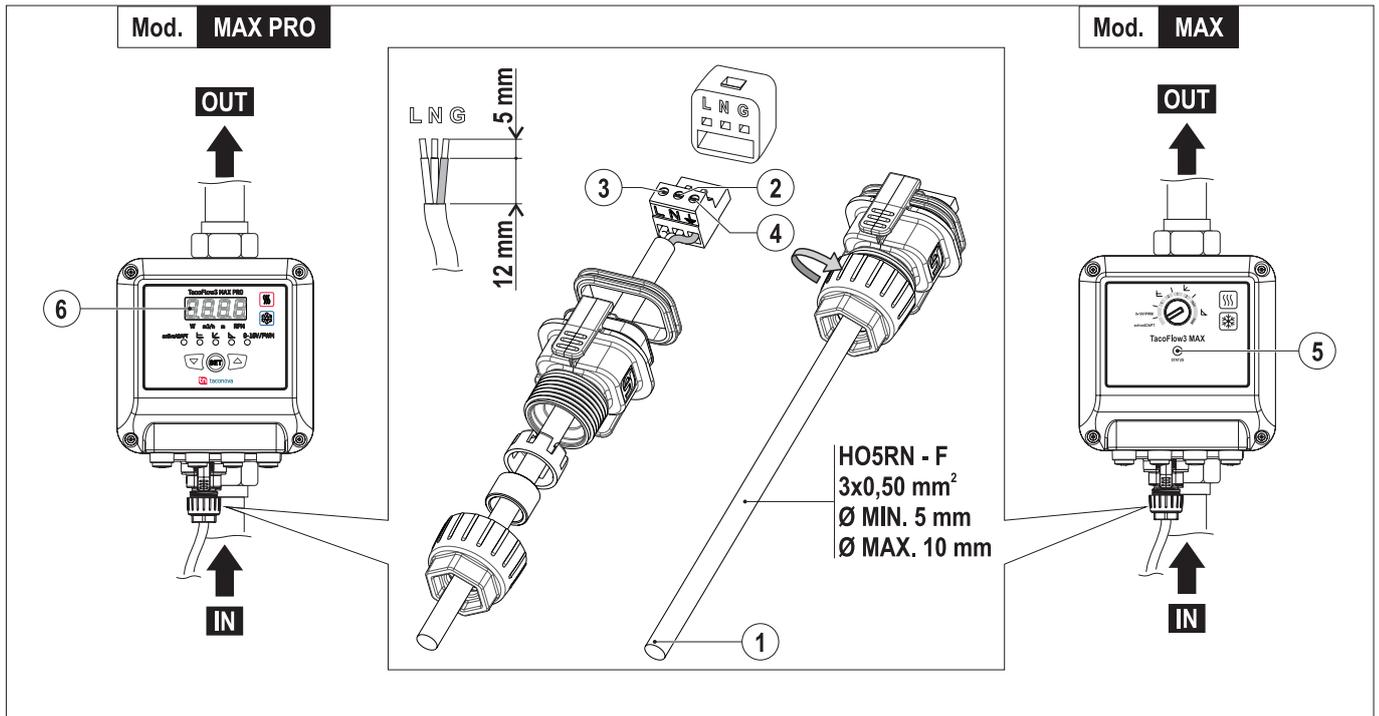

FIG. 10 (Connection to the power source)
IT IS MANDATORY TO USE A SUITABLE CABLE FOR THE ELECTRICAL CHARACTERISTICS REQUIRED (FIG. 10 - REF. 1).
- 1) Use a cable (FIG. 10 - Ref. 1) with the features shown in FIG. 10.
- 2) Connect the blue (neutral) wire to the terminal N (FIG. 10 - Ref. 2).
- 3) Connect the black or brown (phase) wire to the terminal L (FIG. 10 - Ref. 3).
- 4) Connect the yellow/green color (earth) to the terminal G (FIG. 10 - Ref. 4).
- 9) Enable the voltage and check the connection by the LED on (FIG. 10 - Ref. 5) on the MAX model and the ignition of the display (FIG. 10 - Ref. 6) on the MAX PRO model.